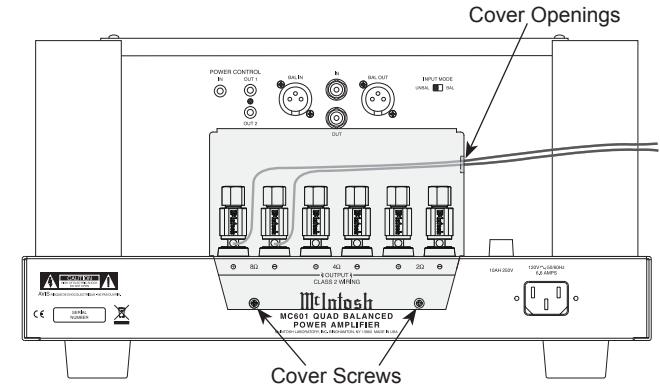

Figure 6 (Outside USA and Canada)
13. Locate the Terminal Connections Cover from the inside of the MC601 shipping carton. Insert the just prepared Loudspeaker hookup cables thru the cover opening on the right side. Refer to figure 6.
*Note: The illustration in figure 6 is connections for 8Ω (ohms) Loudspeakers.*
15. Attach the Terminal Connections Cover to the MC601 Rear Panel with the previously removed Screws. Refer to figure 6.